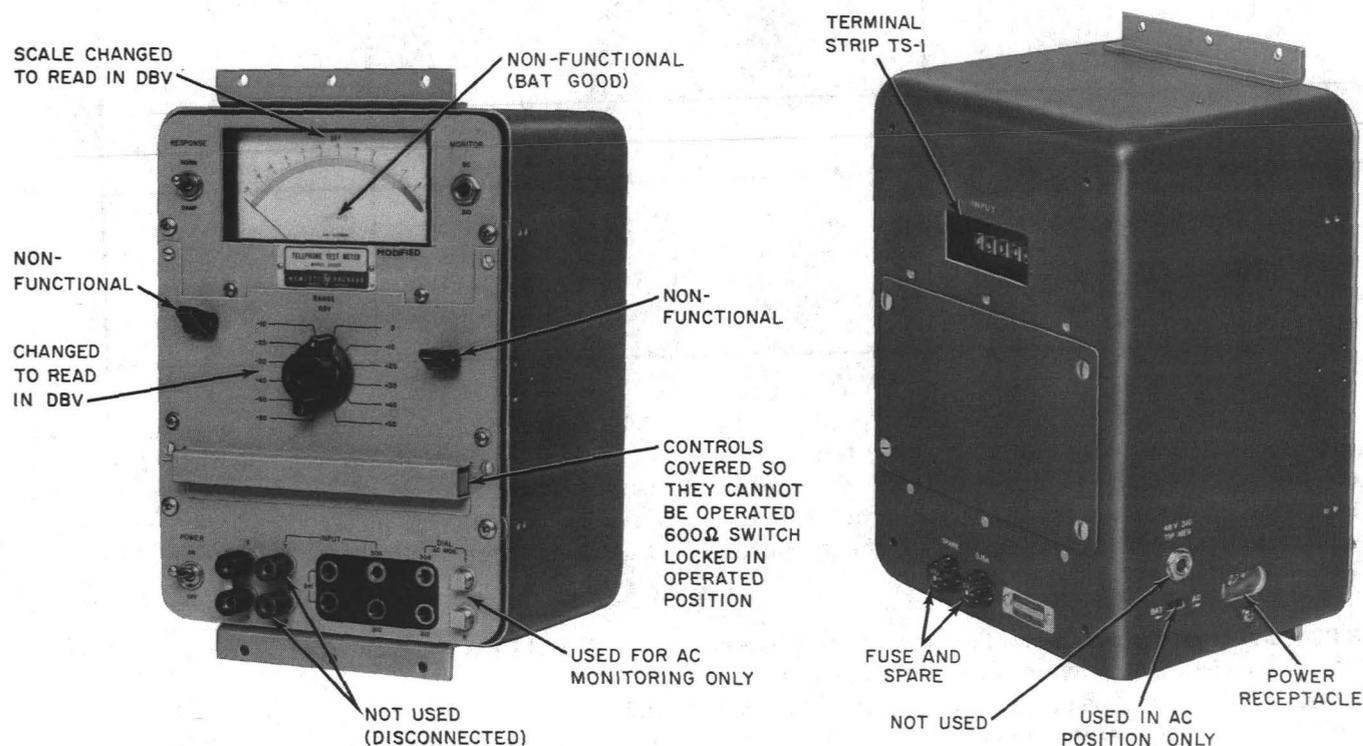

Fig. 1—Front and Rear View of Modified HP3555A
**2.01** Figure 1 illustrates the panel controls, indicators, and connectors on the meter and those items which are affected by the modification and of those whose function may not be clear in the illustration.